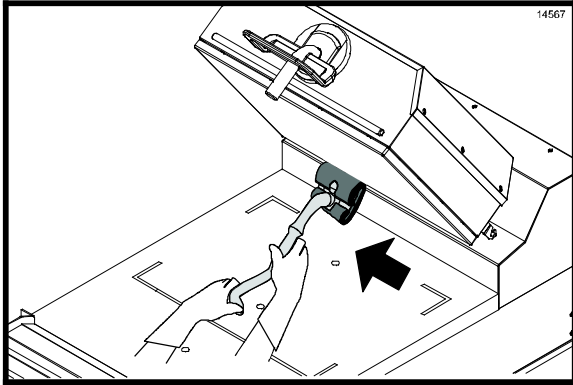

Figure 25
16. Apply the grill cleaner to the back side of the platen. (See Figure 25.)